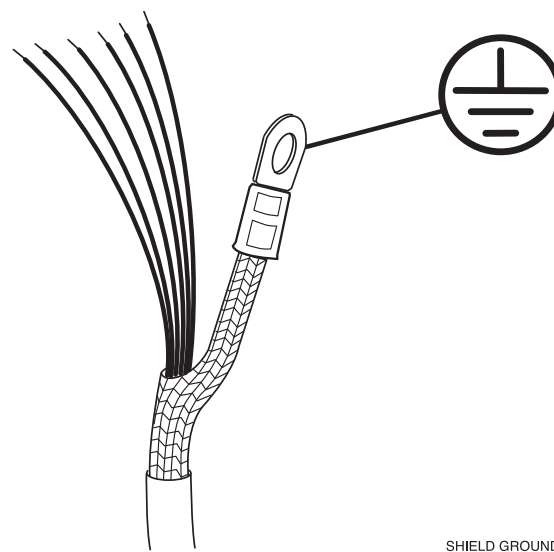

Figure 3-12 Machine interface cable grounding
4. If installation requires removal of a cable connector, all wires must be properly terminated, including shield, or system problems may occur. See Figure 3-12.